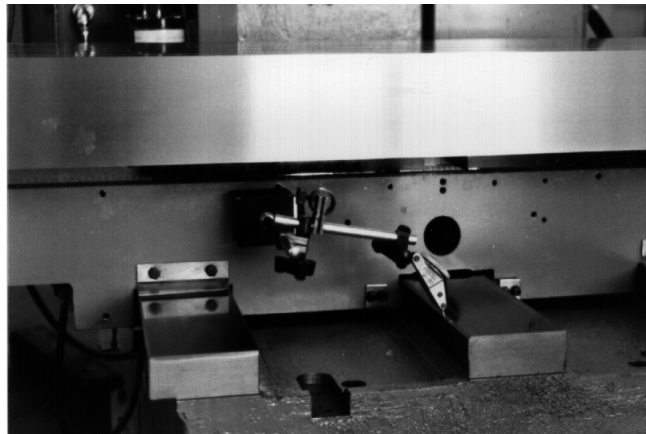

Figure 6-7 Position Indicator
- 1) Center the table at the X-axis cold start position. Attach a magnetic base and an indicator just below the gib, as shown in Figure 6-7. Adjust and set at a zero reading.